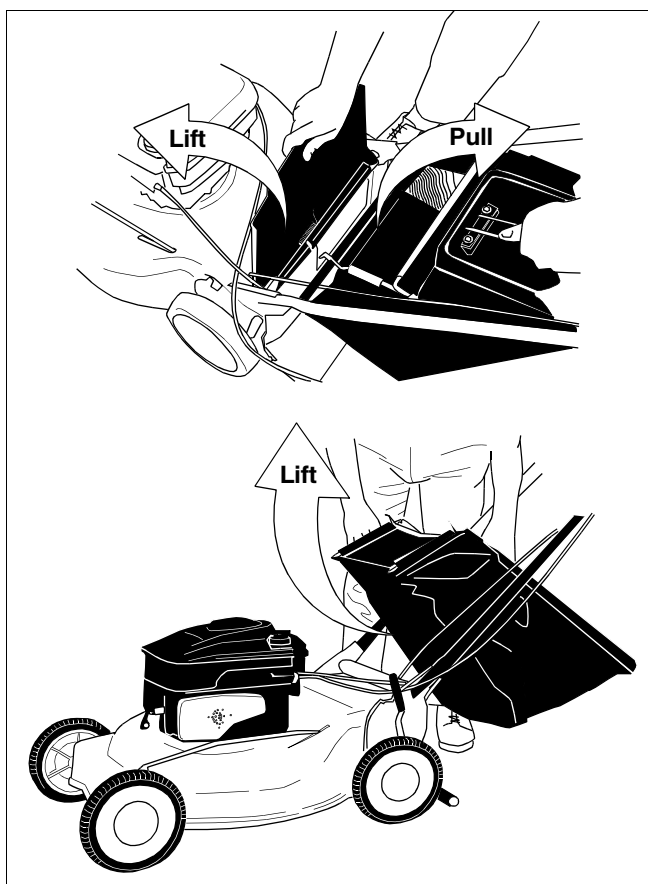

Figure 9
- Lift the rear discharge door and pull the bag away from the mower. See Figure 9.